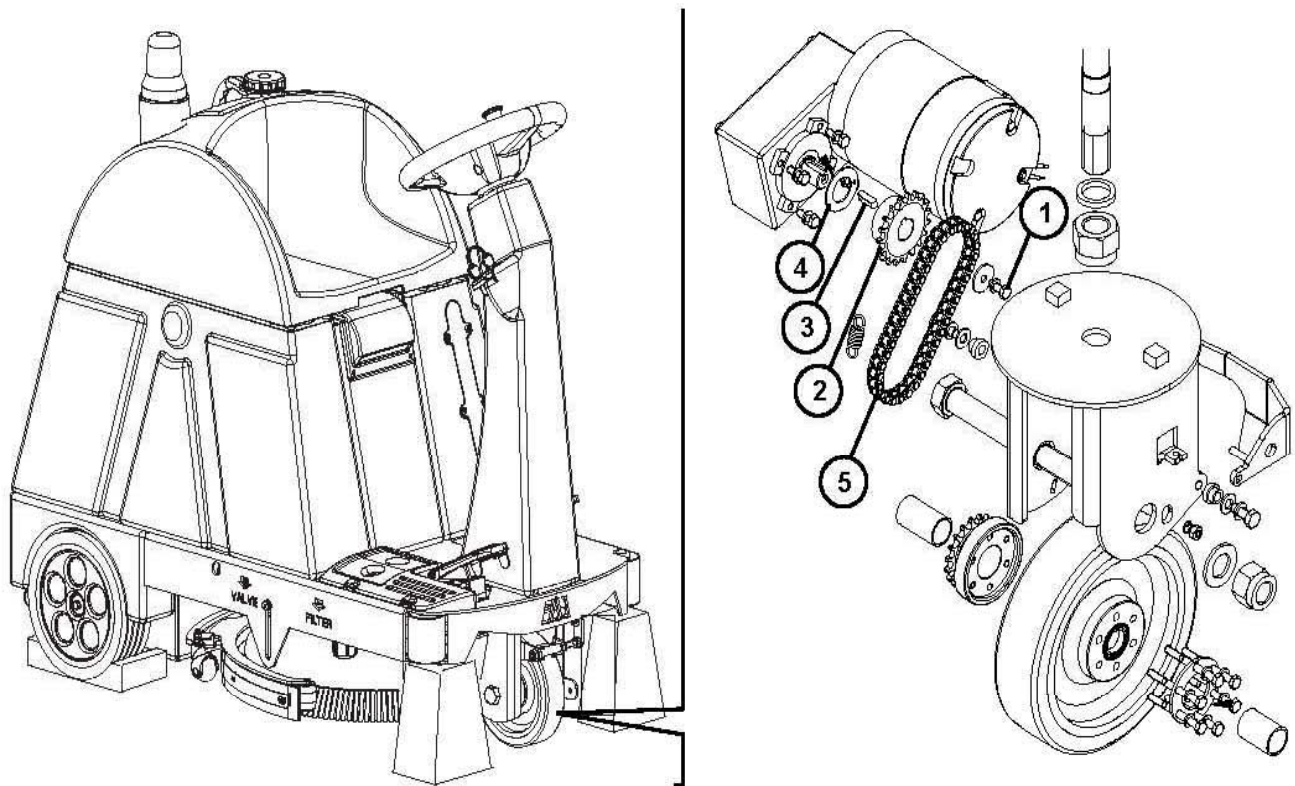

Figure 9-3
2. Unscrew the screw (1, **Figure 9-3.**) and retrieve the washers.
3. Remove the pinion (2) and retrieve the lug (3).
4. Retrieve the self-lubricating bearing (4).
5. Retrieve the chain (5).